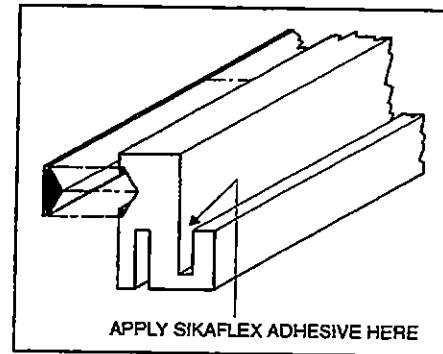

Figure 45
7. Apply Sikaflex-255 FC adhesive all around the rubber extrusion in the channel for the windshield opening flange. See figure 45.